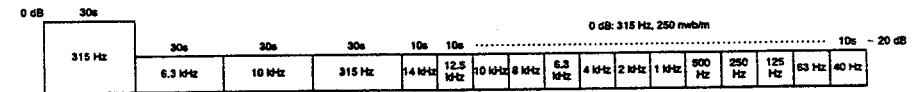

Fig. 6-4 Constants of the test tape STD-331E
- STD-331E : Playback adjustments (See Fig. 6-4)